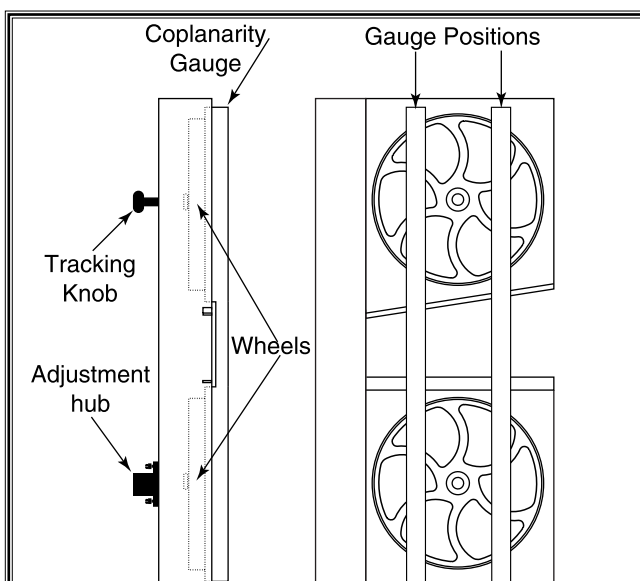

Figure 34. Checking for coplanarity.
4. Place your gauge up against both wheels in the positions shown in **Figure 34**.